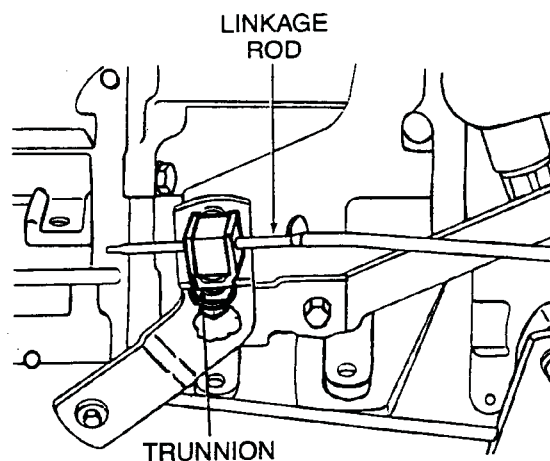

Fig. 3-5 Shift Linkage-60/70 Series
5. Loosen the trunnion lock bolt (Fig. 3-5). Linkage rod should now slide freely in the trunnion.
7. Position the linkage rod so it is a free fit in the range lever (Fig. 3-5). Then tighten the trunnion locknut.